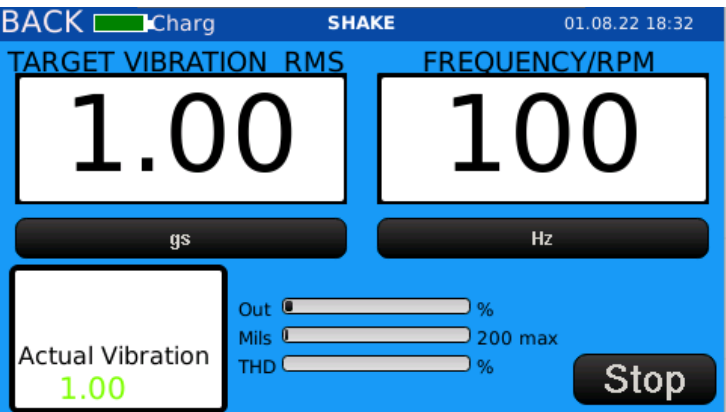

Figure 16. RMS units showing on Shaker Screen
- 2. Select the **RMS button** next to Vib Units (Figure 14) to choose RMS units (Figure 16).